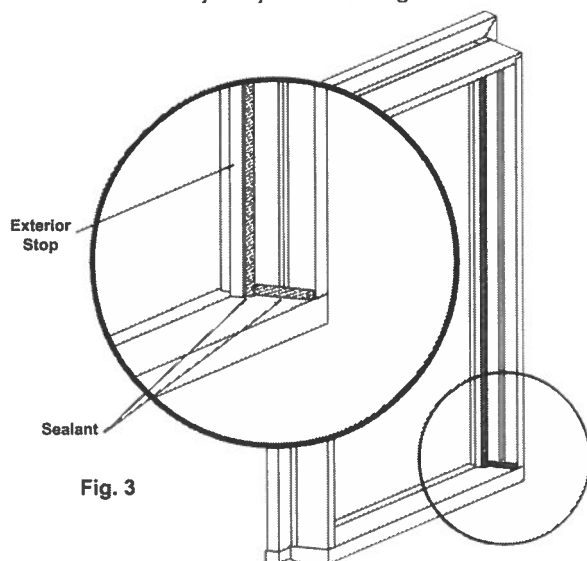

Fig. 3
5. Apply a 1/4" – 3/8" bead of sealant to the backside of the exterior side and head stops. Apply a secondary bead of sealant to the sill area at the sill to side jamb joints. See Figure 3.